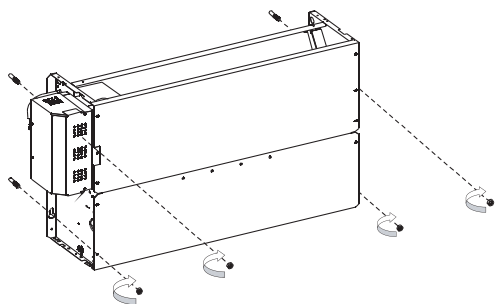

Fig.4-19
- 2) Secure the unit by driving the four fixing screws into suitable masonry plugs. (Refer to Fig.4-19)